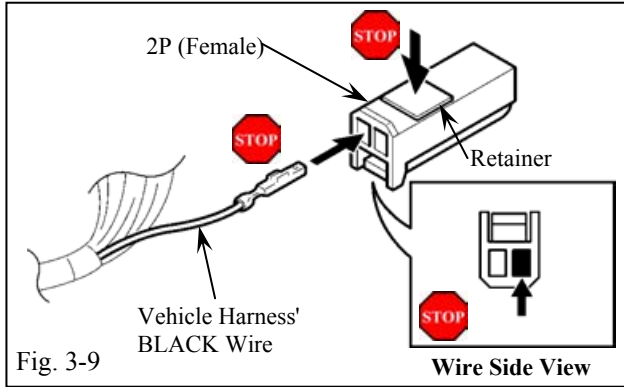

Fig. 3-9
- (n) Insert the terminal at the end of the vehicle harness' BLACK wire into the right side opening of the empty 2P connector. (Fig. 3-9)
- (1) Turn the connector so the wire faces you and the tab is on top.
- (2) Verify the correct opening is chosen.
- (3) Verify the terminal is inserted and seated properly.
- (4) The terminal should not come out when pulled lightly from the back. If the terminal comes out, push it in further until securely seated.
- (o) Close the 2P connector's retainer. (Fig. 3-9)